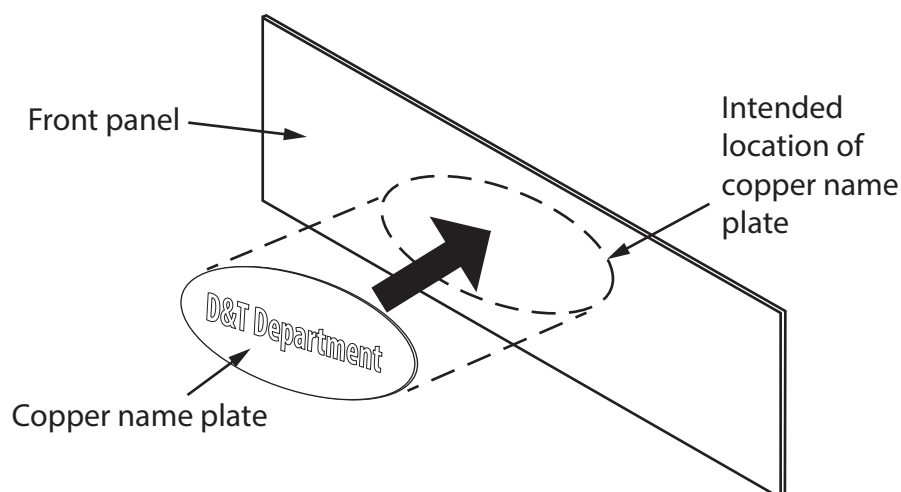

Figure 11
Figure 11 shows the copper name plate ready to be joined to the front panel.
- (d) Give **two** different methods of assembly that could be used to join the copper name plate to the front panel as shown in Figure 11.